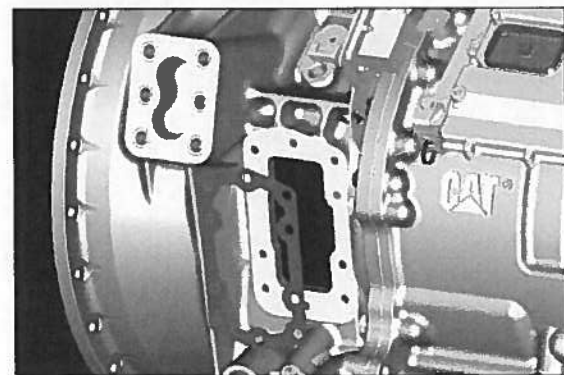

Fig. 24
2. Remove the gasket and clean the aperture surface (**Fig. 24**).